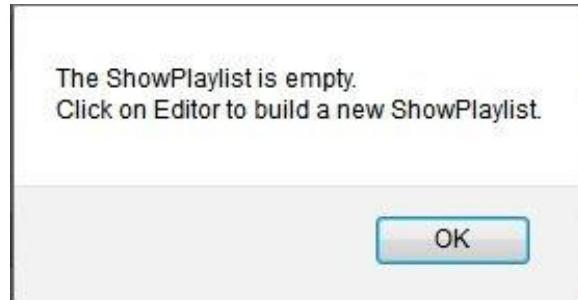

Figure 268: Empty Playlist
- If no Playlist is selected, a message will appear stating, “The show playlist is empty” (Figure 268).